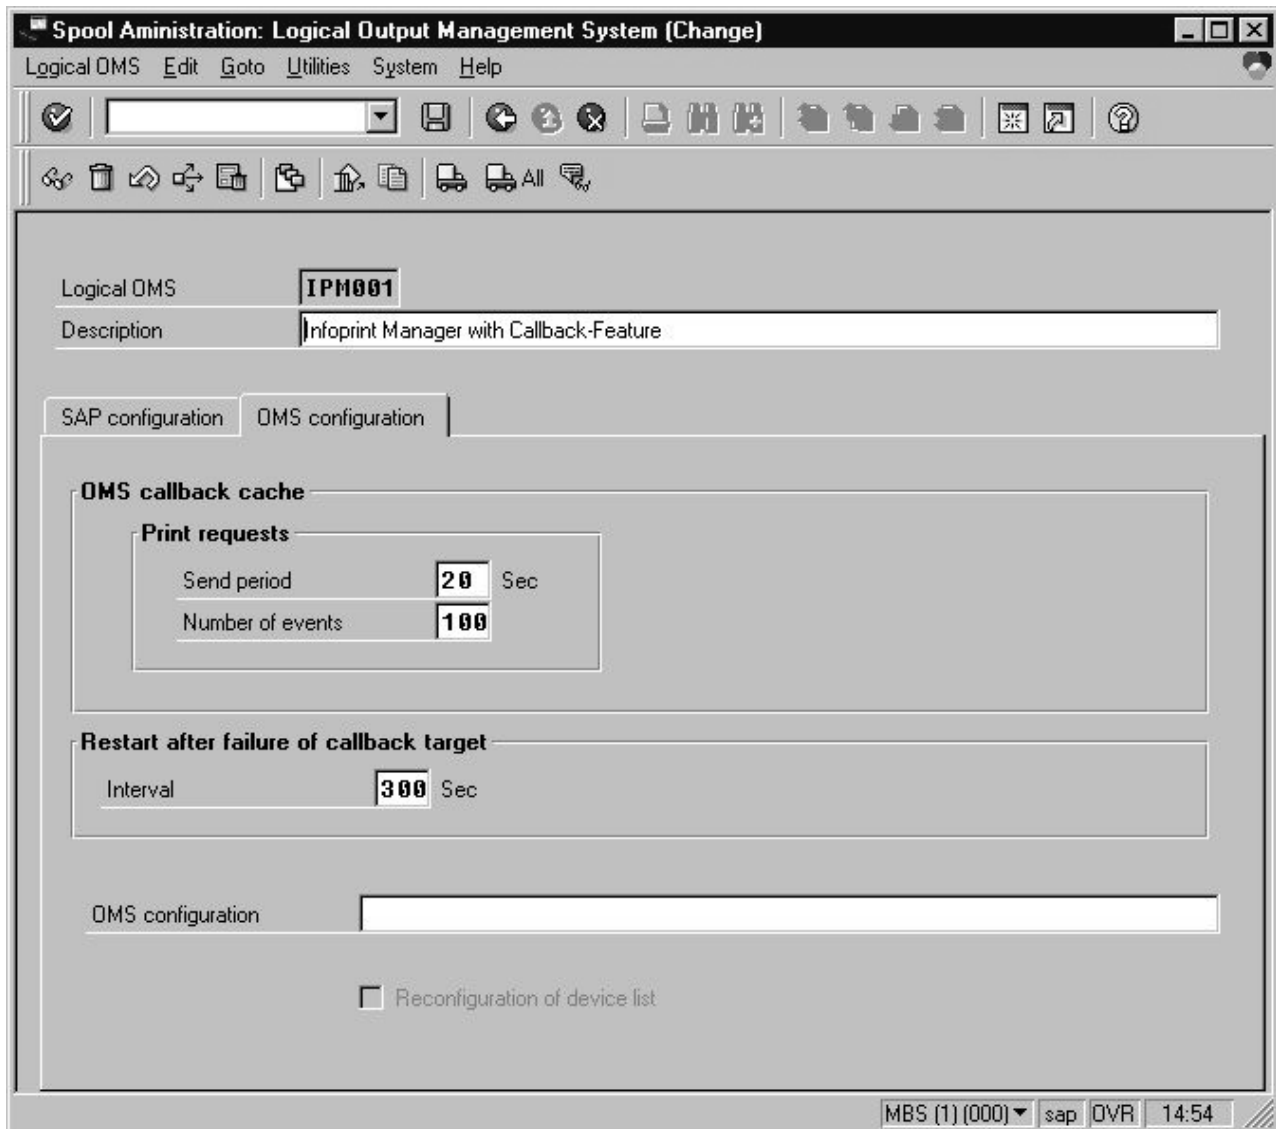

Figure 12. Specify notification event values
7. From the **OMS Configuration** tab (Figure 12 on page 39), you can specify how often (**Send period** field) in seconds or how many (**Number of events** field) notification events the InfoPrint Manager callback daemon should collect before delivery to the SAP R/3 system. In other words, the callback daemon will only deliver events for jobs on printers associated with this LOMS if it has collected x number or x seconds have passed since the last delivery.